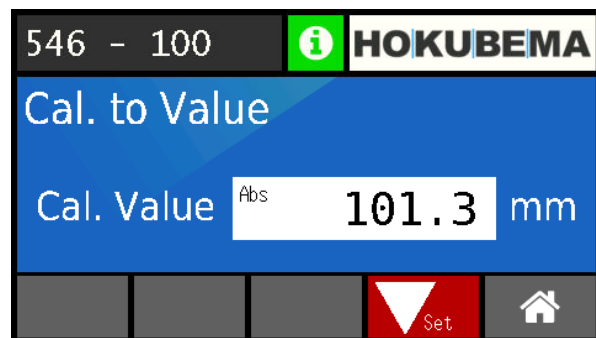

Figure 56: Input of the reference value
- Enter the measured value (z. B. **101.3 mm**) into the “**Cal. Value**” field (see ⇒ Figure 56):